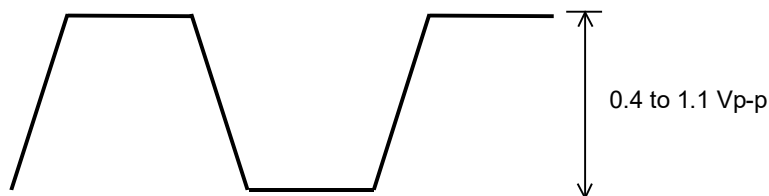

Figure 6.3.6-2 Example of waveform measured by sampling oscilloscope
4. Use the averaging function of the sampling oscilloscope to measure the waveform, and then check that the level of the measured waveform falls within the range shown Figure 6.3.6-2.